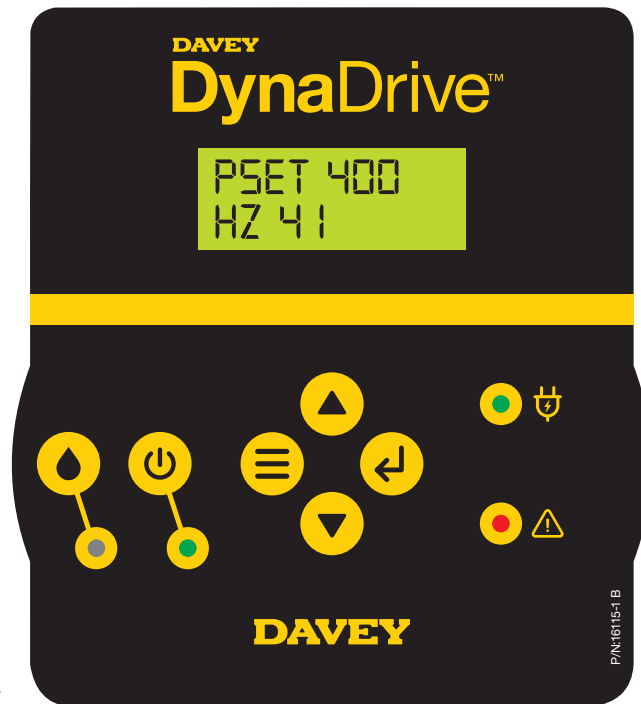

Figure 6.7
- The display will continue to show the pressure set, but changes from showing actual pressure, to the frequency of power supplying the motor, see figure 6.7. This dictates the speed that the motor runs;